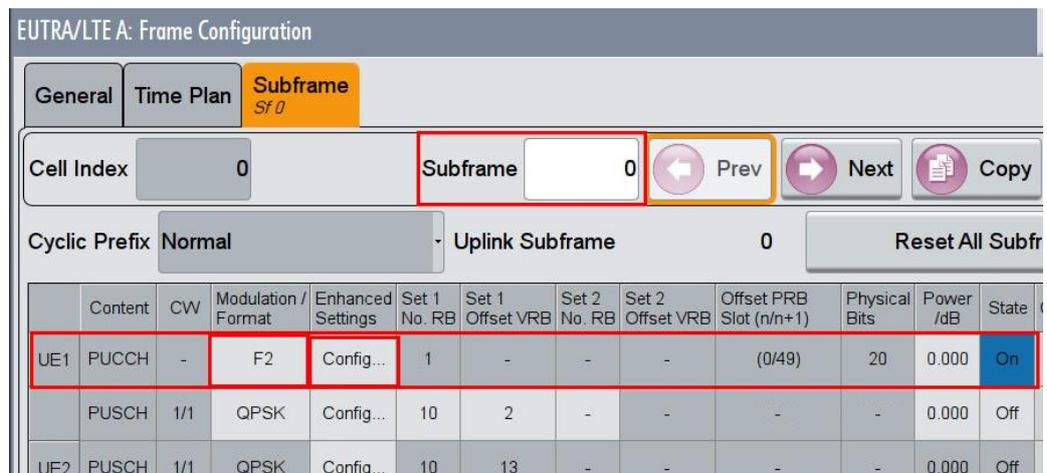

Fig. 3-93: PUCCH with format F2 in subframe 0
6. Set for the PUCCH the **Format** to **F2** and the state **On** (Fig. 3-93)